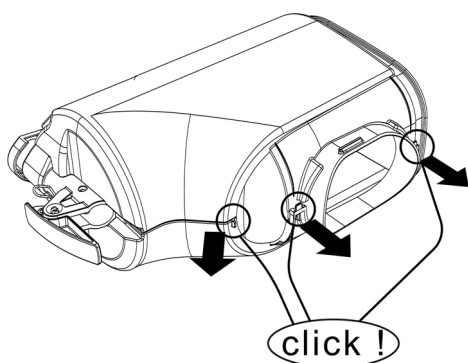

figure 16
- 1** Click open the two parts. (see figure 16).